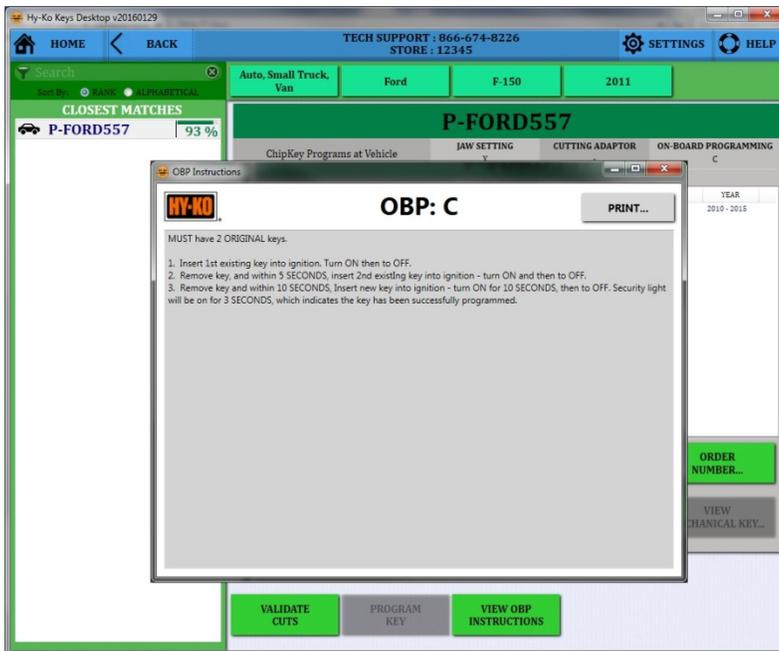

fig. 109
- In some cases the on-board programming procedure requires that two original, working keys be present to program the new key to the vehicle (see fig. 109). If the customer doesn't have two original working keys, they will have to go back to a dealership to get a new key.